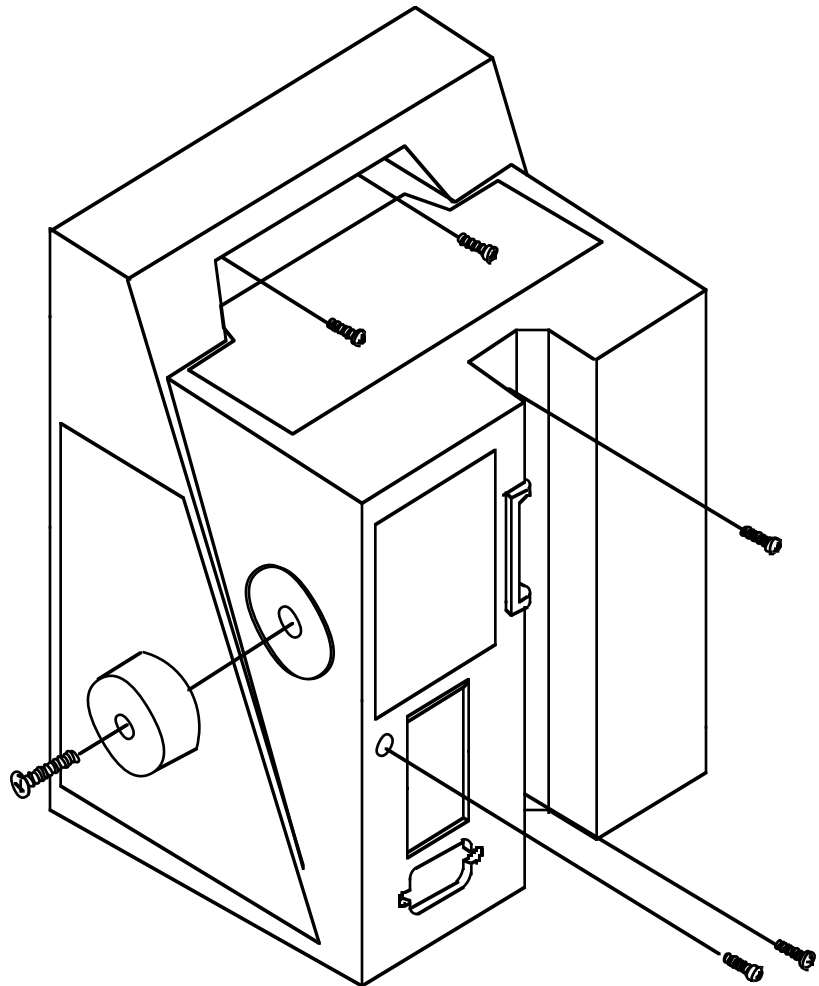

Figure 6-1. Cover Removal
2. Take off the cover by removing the (5) screws and pole clamp knob as shown in Figure 6-1.